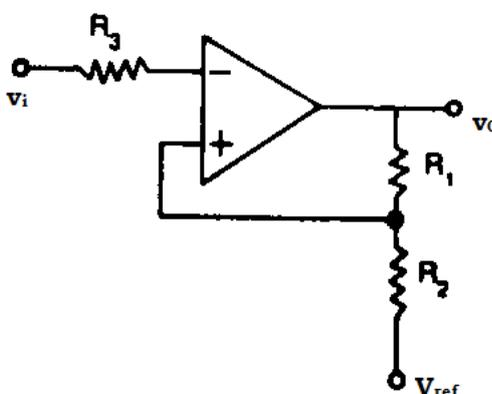

Fig. 3.26 An inverting Schmitt trigger
- Fig. 3.26 shows such a regenerative comparator. The circuit is also known as Schmitt Trigger.
- The resistor R_3 in Fig. 3.26 is chosen equal to $R_1 \parallel R_2$ to compensate for the input bias current.
- A non-inverting Schmitt trigger is obtained if V_i and V_{ref} are interchanged in Fig.3.26.
- If in the circuit of Fig. 3.26, V_{ref} is chosen as zero volt, so we can write,